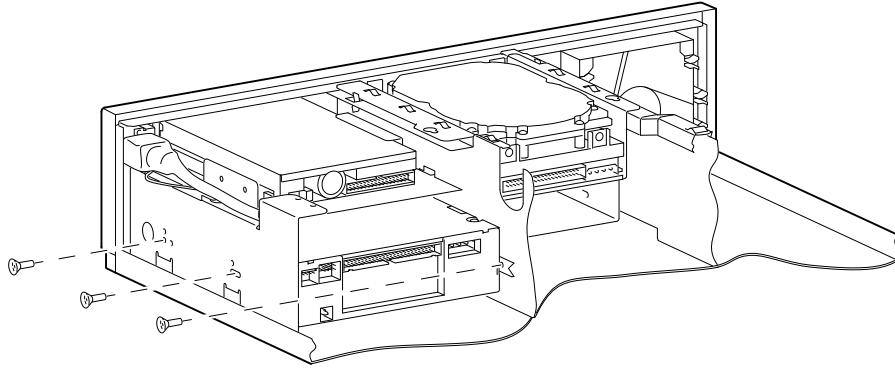

Figure 4-20 Securing the Drive
6. Slide the drive into the system unit, securing it with two screws on the right side and one screw at the back of the holder on the left, as Figure 4-20 shows.